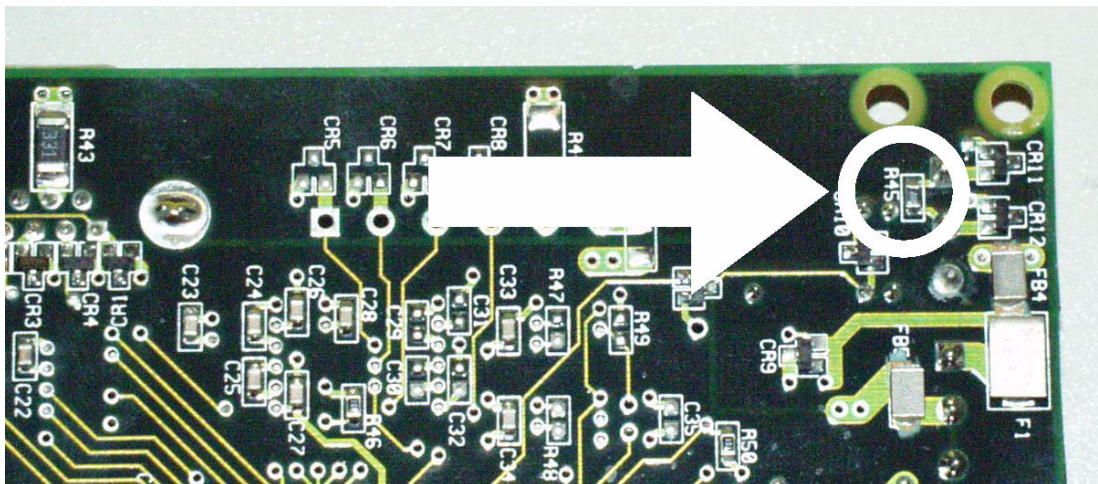

Figure 1: Location of the R45 on back side of Surface Mount PXL-250
6. Locate the R45 resistor. The R45 resistor is located on the back side of the PCB behind TB-1 (see Figure 1).